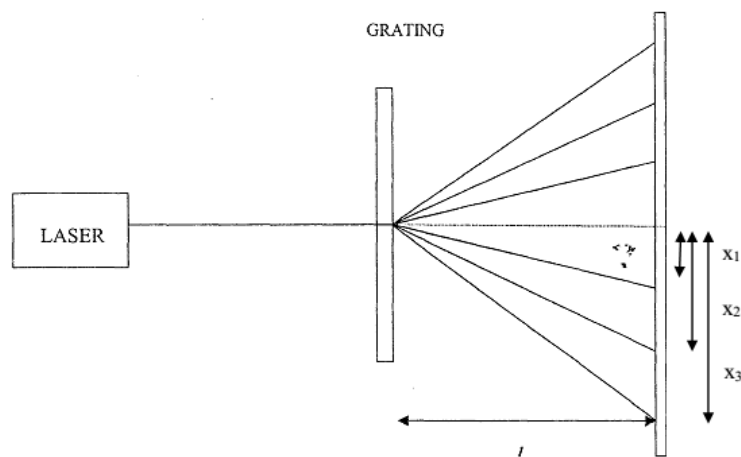

Fig. 1. Experimental Setup
2. The grating is mounted on an upright next to laser. The screen or scale arrangement is placed next to the grating as shown in Figure 1.